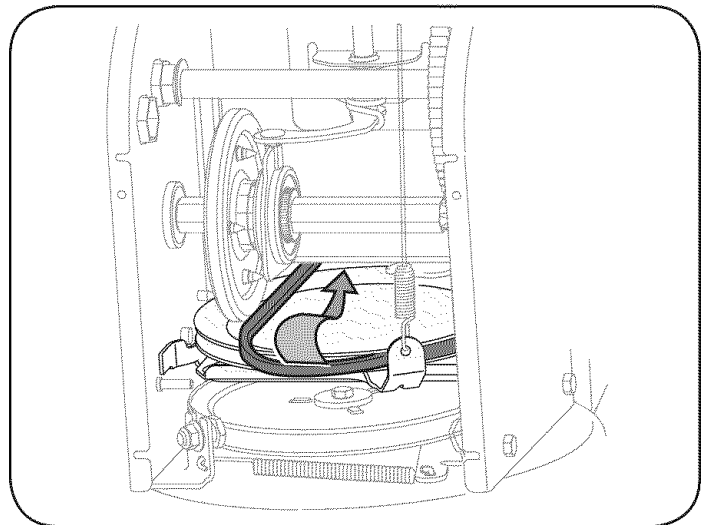

Figure 27
- Slip the drive belt off the pulley and between friction wheel and friction wheel disc. See Figure 27.